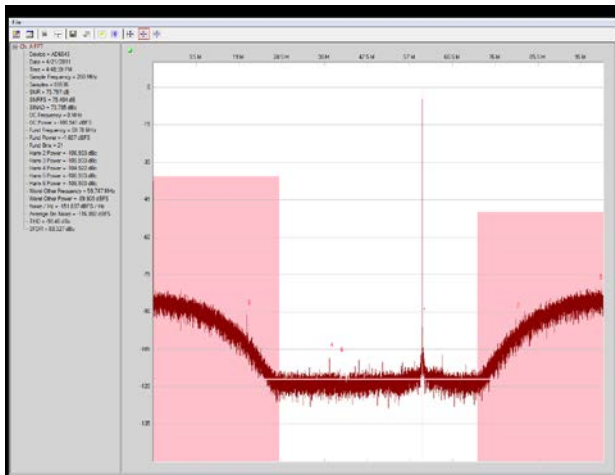

Figure 18. Graph Window of VisualAnalog, NSR Enabled, AD6672
- The result should show an FFT plot that looks similar to Figure 18.